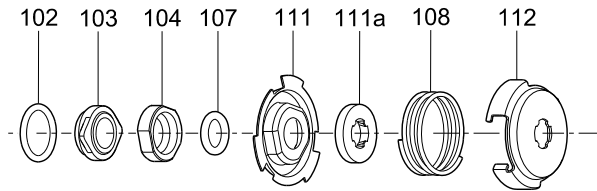

Fig. 21 Exploded view of shaft seal
8. Continue the dismantling until shaft seal (pos. 105).
9. Remove shaft seal (pos. 105). See fig. 21.